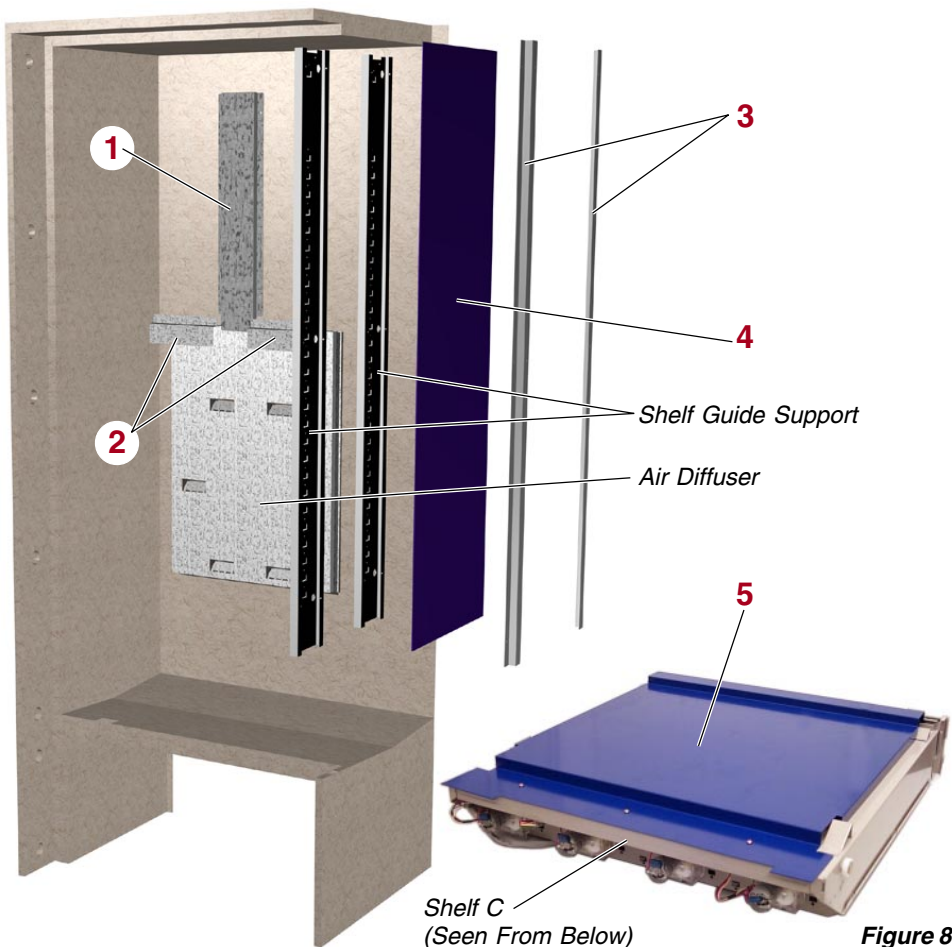

Figure 8
- 4.- Install the 2-temperature air duct (1) and the two upper diffuser lids (2) as shown in **figure 8**.
- 5.- The temperature separator (5) is installed in the lower part of **shelf C** as shown in **figures 8 and 9**.
- 6.- Screw the lateral separator (4) between the shelf guide support and lateral separating flanges (3) as seen in **figure 8**.